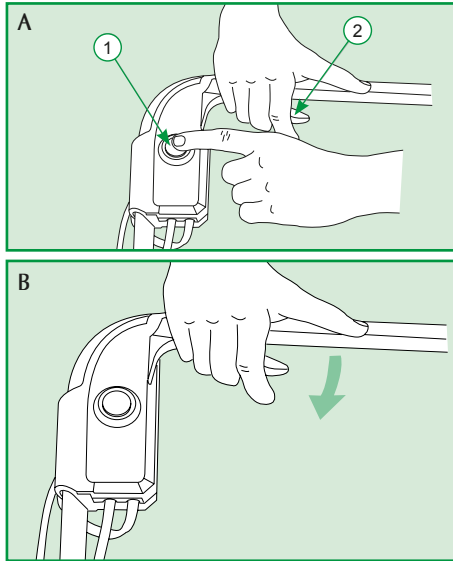

Figure 7
4. To switch on, press the red button (1) then pull the safety lever (2) of the current breaker switch as shown in Figure 7 by the handle. The engine works only when the safety lever (2) is flush with the handle and it will switch off automatically as soon as it is released;